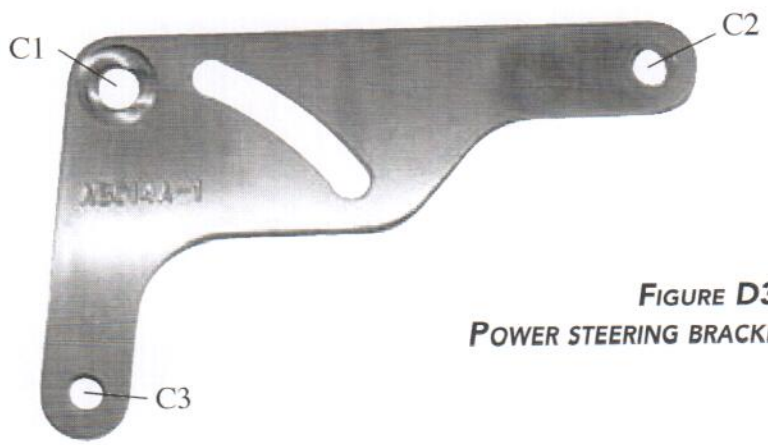

FIGURE D3
4. Attach the "pistol" shaped power steering bracket to the starboard side head oriented as shown in figure D3. The countersunk hole (C1) aligns with the outboard-most hole in the starboard head, with the 1.250" spacer placed between the power steering bracket and the head face. Hole C2 should line up with the inboard-most head bolt hole. (refer to Figure A1 for addtl detail)